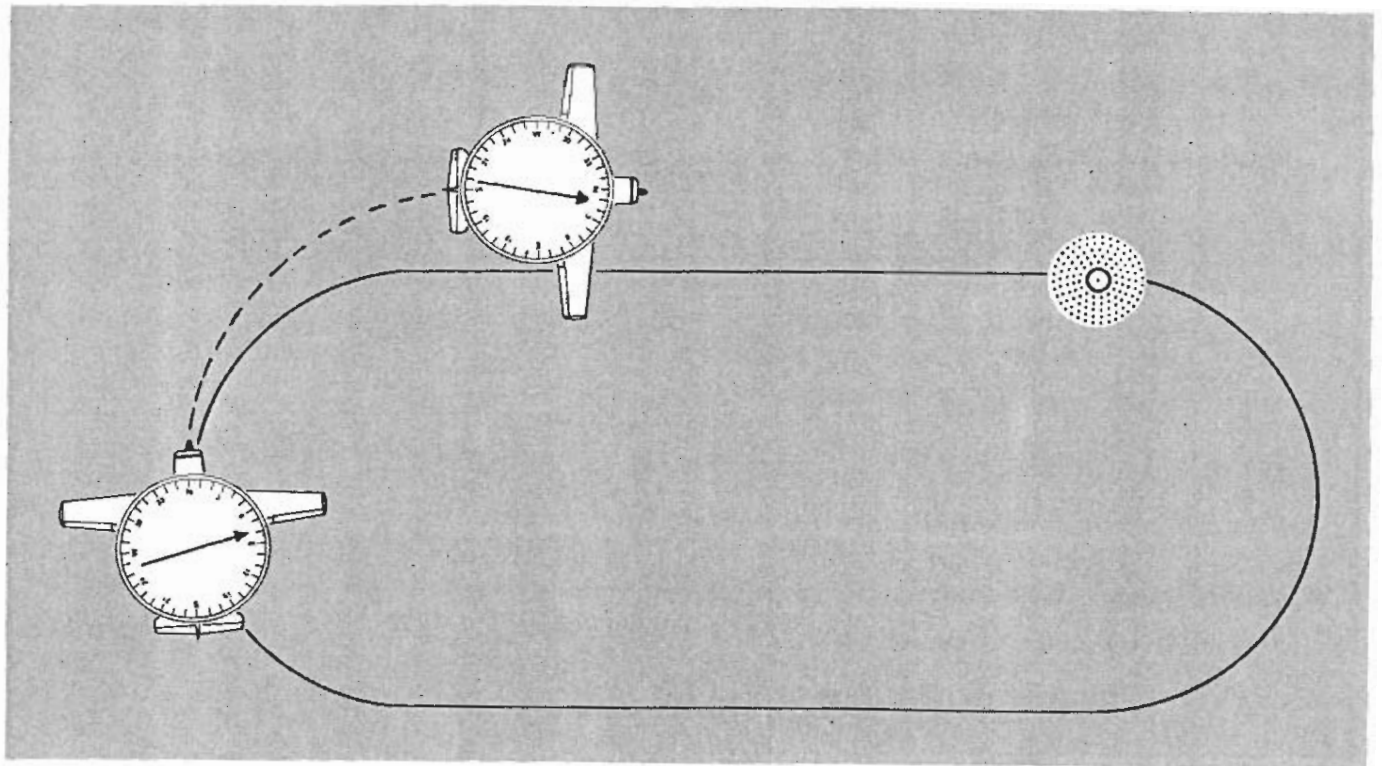

Figure 7-18
**Inbound turn:** As the heading approaches the inbound course, the needle swings towards the nose. If the DG and ADF reach the tops of their respective cards simultaneously, you will roll out exactly on course. If, after the wings are level, the needle is not on the nose, make a turn to intercept and track the inbound bearing normally (figures 7-18 and 7-19).